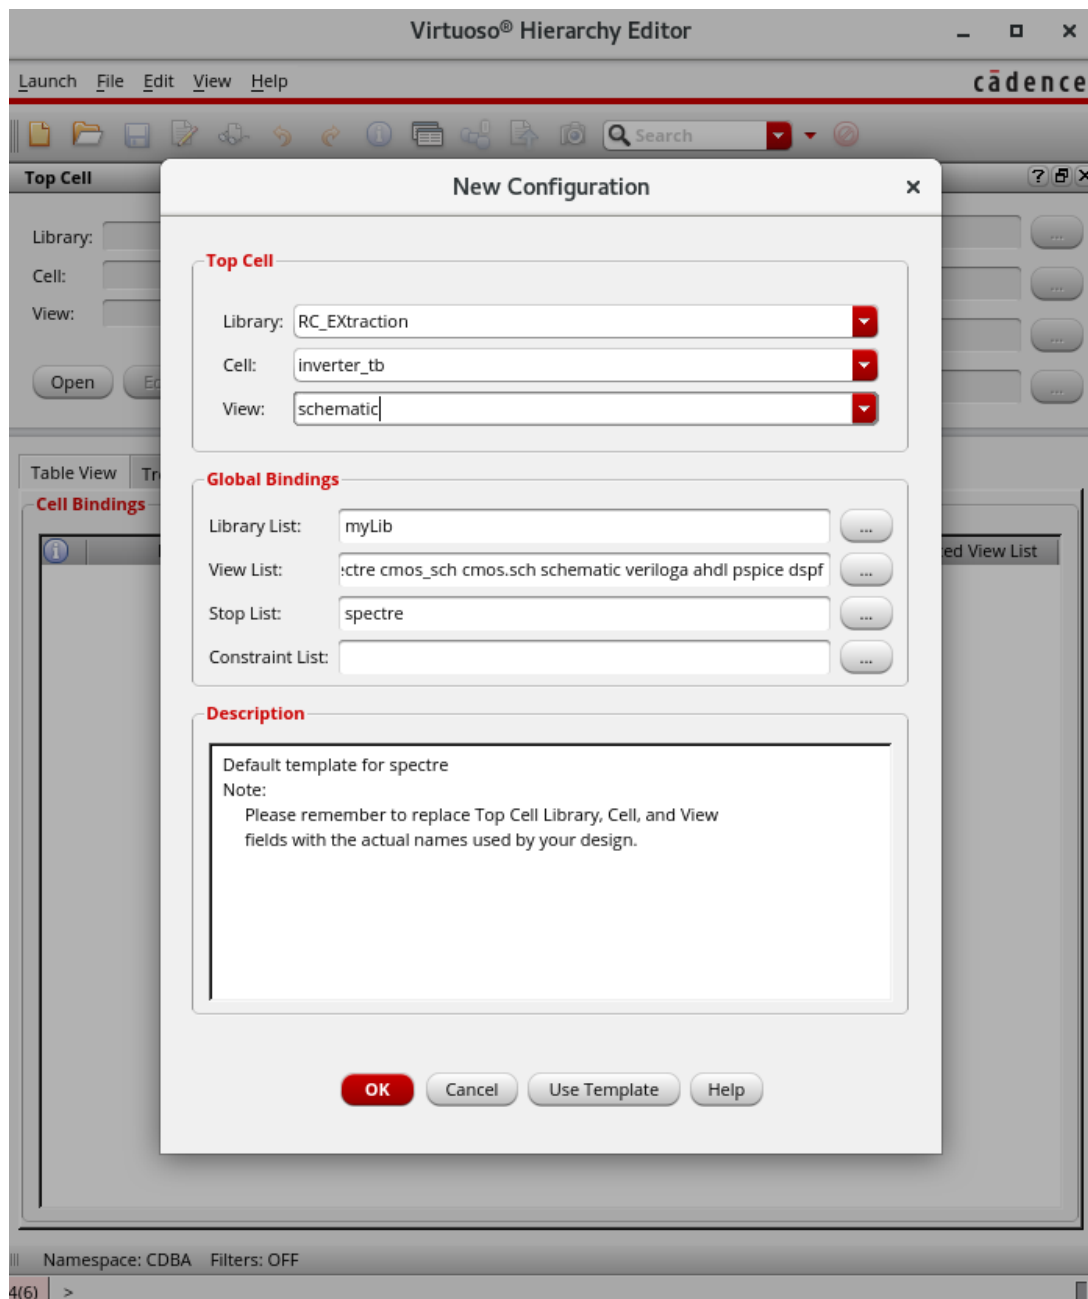

Figure 16: Finalizing the configuration by setting the view to schematic.
4. Press **OK** to finalize the configuration (Figure 16).